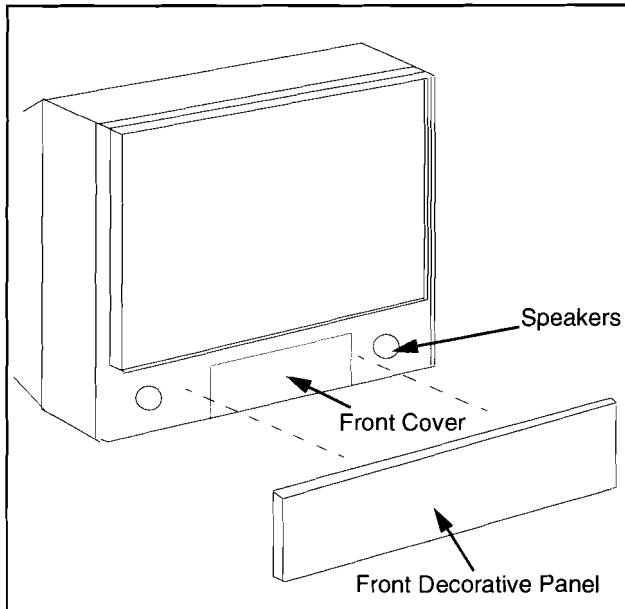

Figure 8. Panel Removal.
(See Figure 8.)
1. Remove the front decorative panel. (see Figure 8)
1. Remove the front decorative panel located under control panel. (see Figure 8)
2. Each Left and Right speaker is secured to the cabinet with (4) screws for each bracket.
1. Remove Front Decorative Panel and Front Cover. (Figure 8)